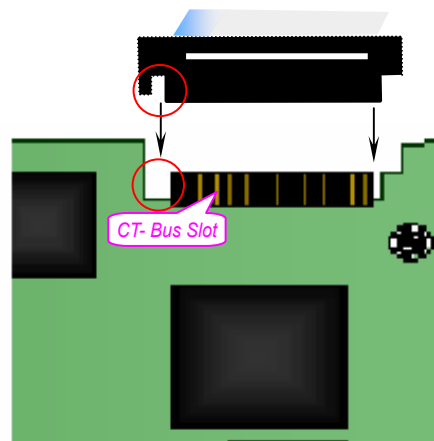

Figure 2-18 Connection of H.100 Bus
- 1) See Figure 2-18 for correct insertion. Do not twist or insert in the opposite direction.